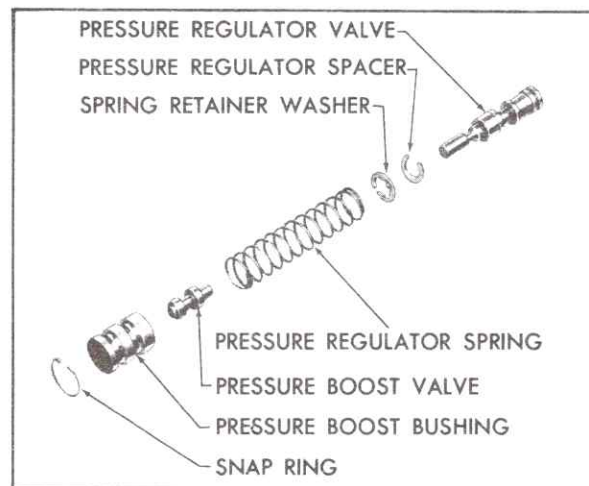

Fig. 7-206 Pressure Regulator Valve Disassembled
a. Install spring retainer on pressure regulator spring. Also install spacers if previously removed, Fig. 7-206.